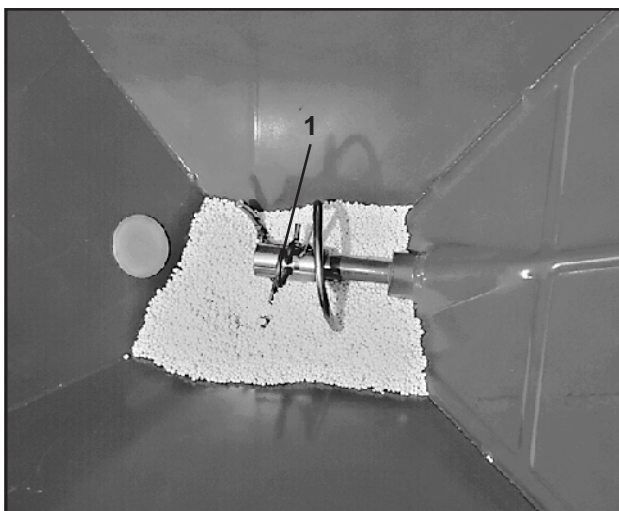

Fig. 9.2
2. Agitator spiral clip pins (Fig. 9.2/1) serve as shear off safety of the agitator shaft.